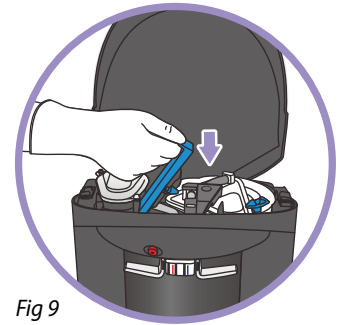

Fig 9
- Rotate the blue knobs to the closed position. Close and latch the blue locking arm (Fig 9).